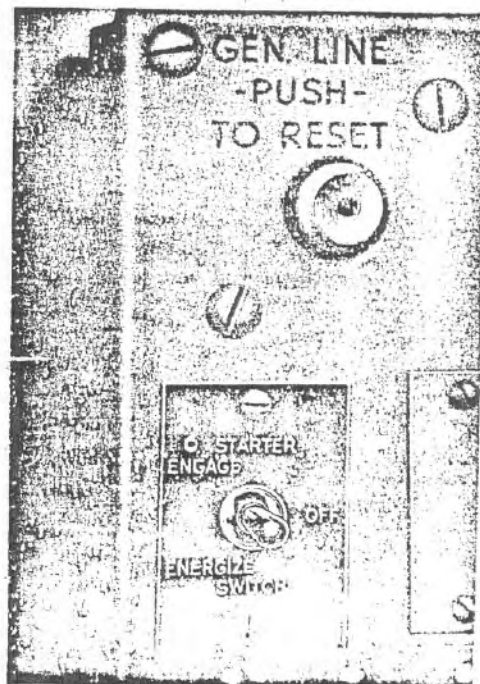

Figure 33—Starter Switch and Generator Circuit Breaker
(11) Push generator circuit breaker button (figure 33) "IN".